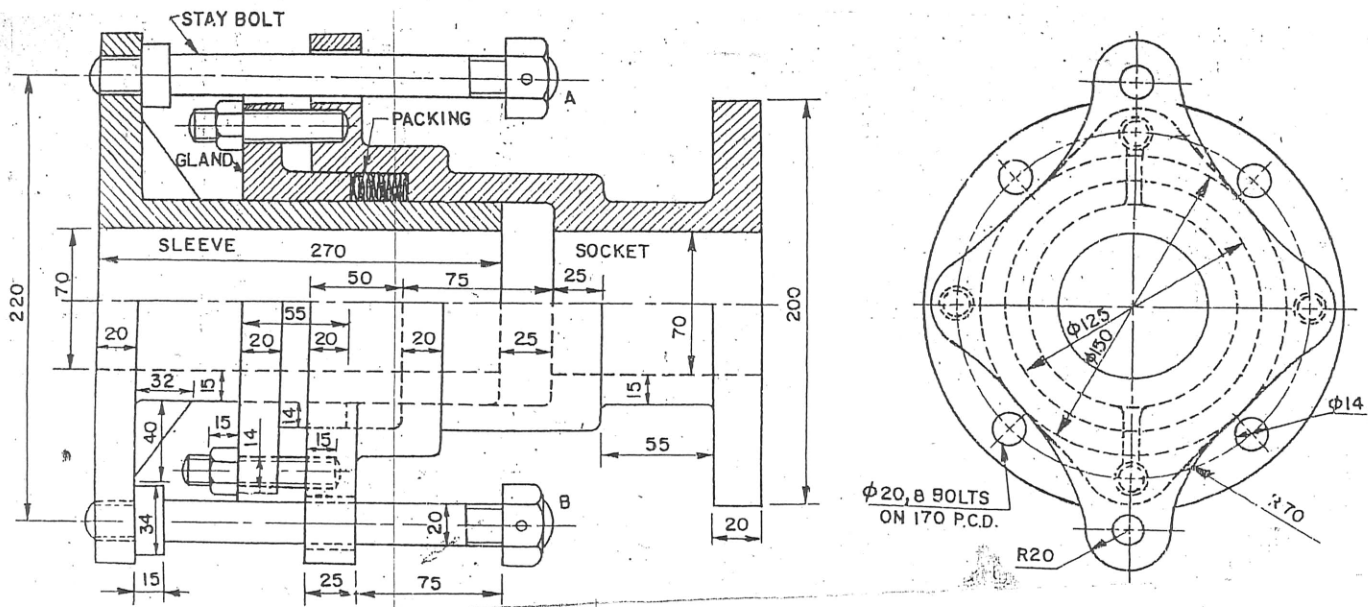

Fig.3
Q.4 Fig.3 shows assembly of Gland and Stuffing Box Type Expansion Joint. Draw the detailed drawing for the parts as below: